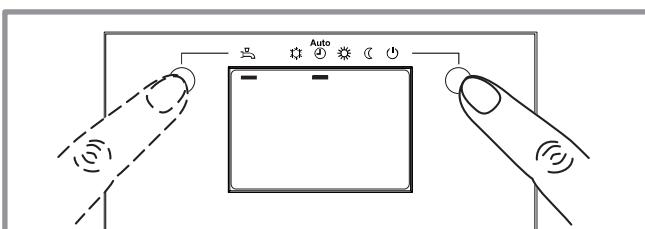

figure 5 - Selecting the heating mode AUTO and Select the DHW mode
- Select the "AUTO" heating mode (figure 5).
- Select the DHW mode (figure 5).